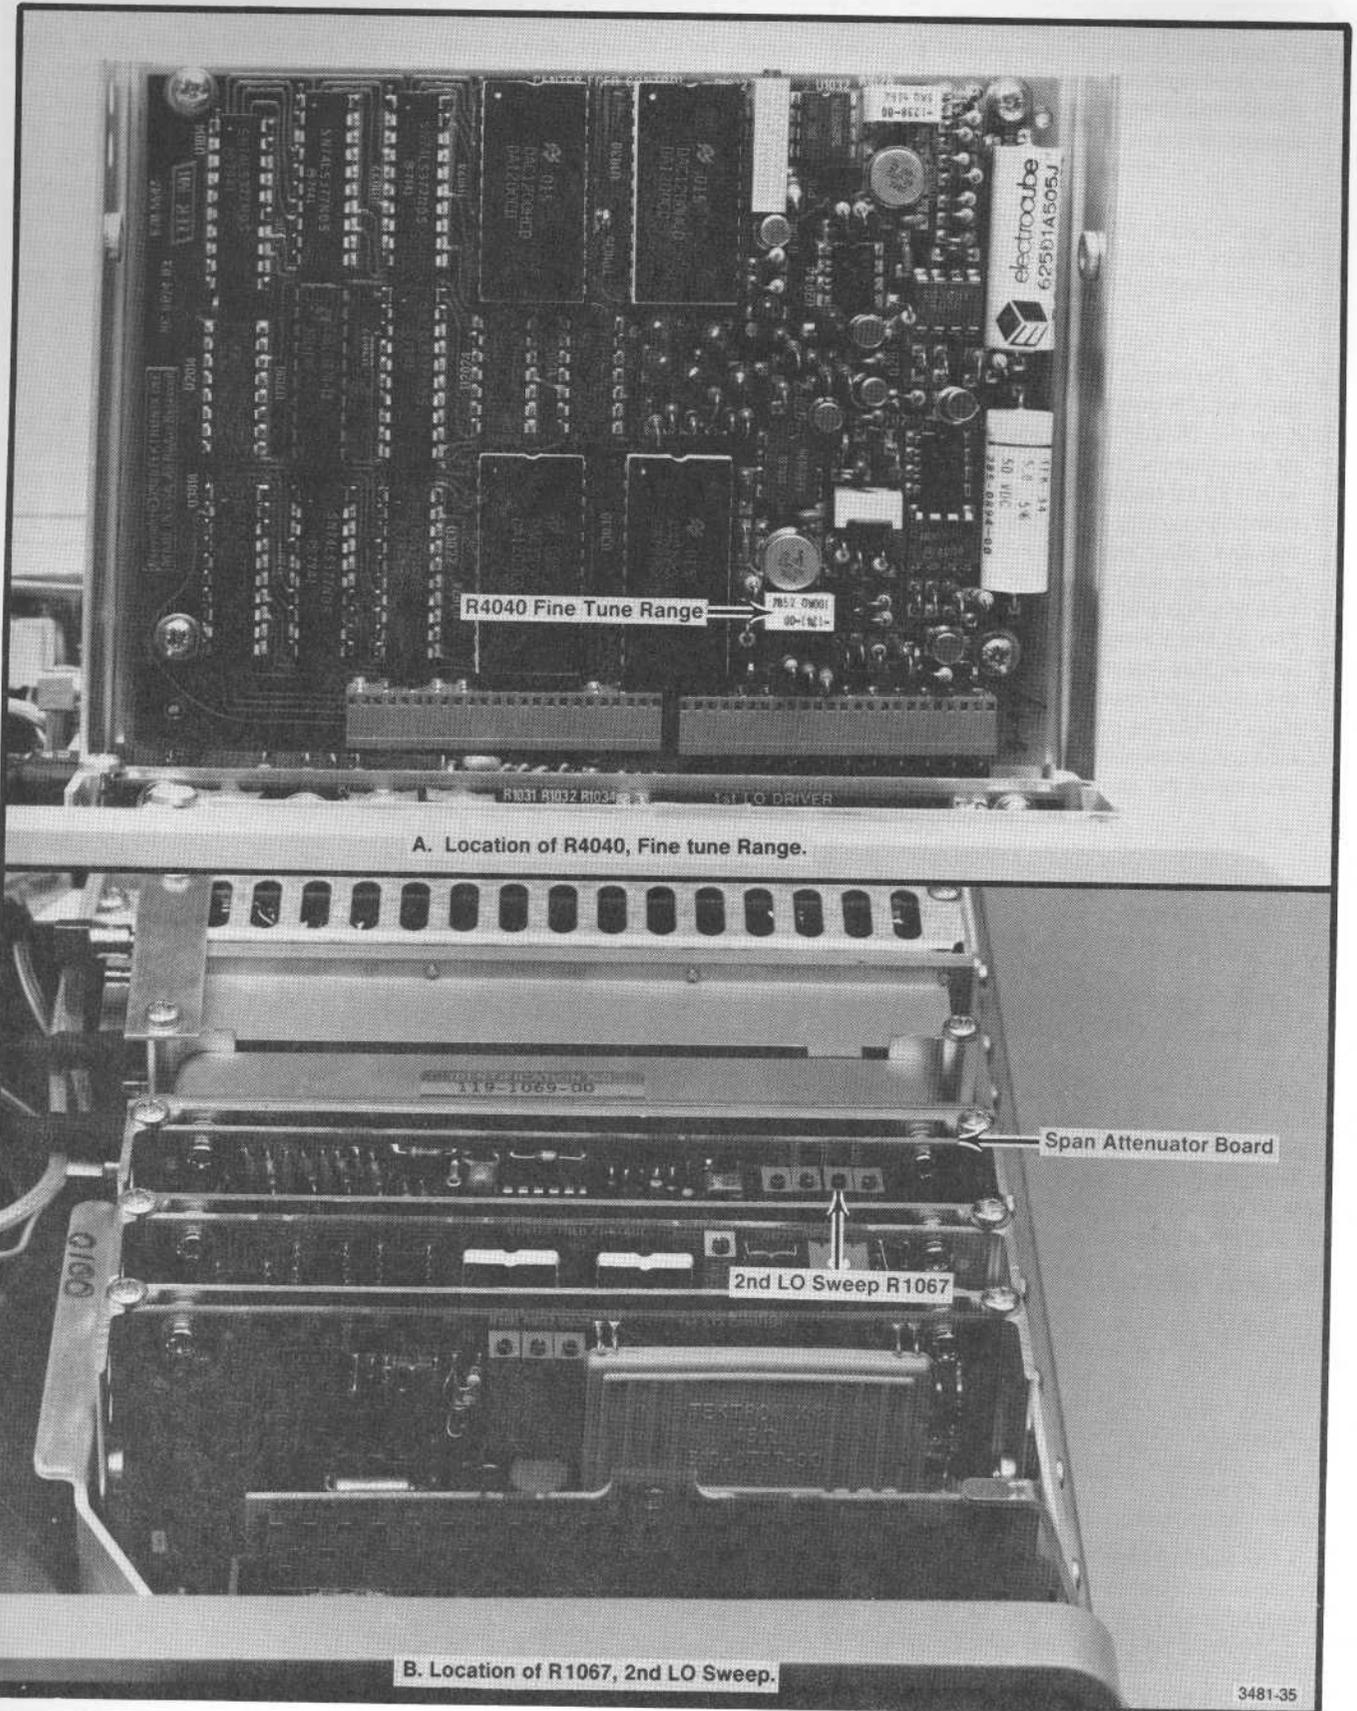

Fig. 4-17. Location of the fine tune range pot (R4040) on the center frequency control board and the sweep gain pot (R1067) on the span attenuator board.
a. Center the Fine Tune Range adjustment (R4040) on the Center Frequency Control board and the 2nd LO Sweep adjustment (R1067) on the Span Attenuator board. Refer to Fig. 4-17 for these locations.
Range adjustment (R4040) on the Center Frequency Control board (Fig. 4-17) so that tuning the 496/496P over a 3 MHz range produces a Δ Frequency display of 3 MHz, ± 20 kHz. Several successive tunings over this range will be necessary to reach the correct setting on the Fine Tune Range adjustment.
h. Set the FREQ SPAN/DIV to 100 kHz/Div, then back to 50 kHz/Div. This recenters the 2nd LO's tuning range. Tune the 496/496P to place a comb line on the center of the screen. Adjust the 2nd LO Sweep adjustment (R1067) on the Span Attenuator board (Fig. 4-17) so that the comb lines on opposite sides of the screen are exactly 8 major divisions apart.